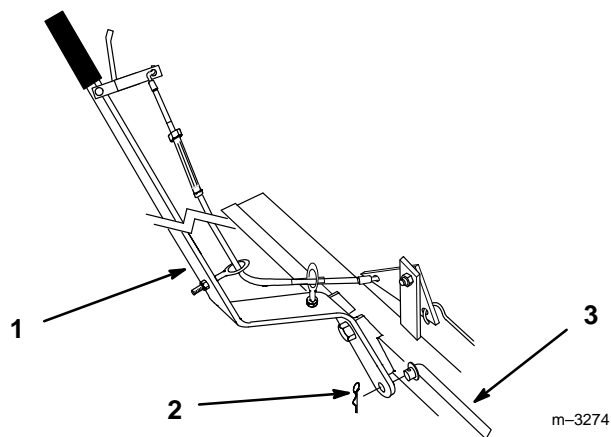

Figure 16
7. Remove hairpin cotter and control rod from index lever (Fig. 16).